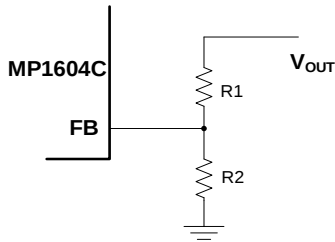

Figure 3: Feedback Network
The external resistor divider sets the output voltage (see Figure 3). Select the feedback resistor (R1, typically between 100kΩ and 200kΩ) that reduces the V_{OUT} leakage current. There is no strict requirement on the feedback resistor. Select R1 to exceed 10kΩ. R2 can then be estimated with Equation (2):
Figure 3 shows the feedback circuit.